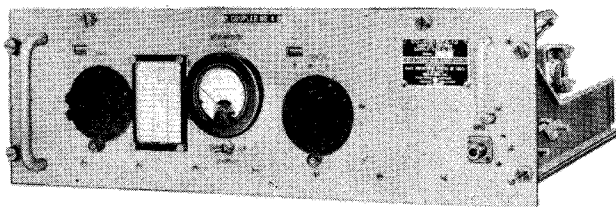

Figure 1-2. Coupler, Antenna CU-419/SRA-13, Front Oblique View
a. COUPLER, ANTENNA CU-419/SRA-13.—Coupler, Antenna CU-419/SRA-13 (see figure 1-2) is one of four identical antenna couplers used in Coupler Group, Antenna AN/SRA-13. It operates in the frequency range of 2—6 megacycles. The four antenna couplers, located in the last four decks of Cabinet, Electrical Equipment CY-1670/SRA, are arranged as individual drawer assemblies of the plug-in type, and are designated COUPLER NO. 1, COUPLER NO. 2, COUPLER NO. 3, and COUPLER NO. 4.